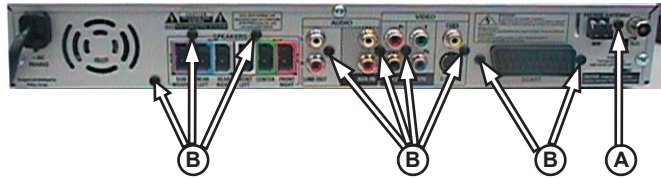

Figure 4-3
- 1) Loosen 1 screw A (see Figure 4-3) to remove the Tuner Module (pos 1040).
- 2) Loosen 9 screws B (see Figure 4-3) and 4 screws (see Figure 3-4) to remove MONO Board.
- 1 snap hook each on the left & right side (pos 161).
- 2 snap hooks on the bottom side (pos 161).